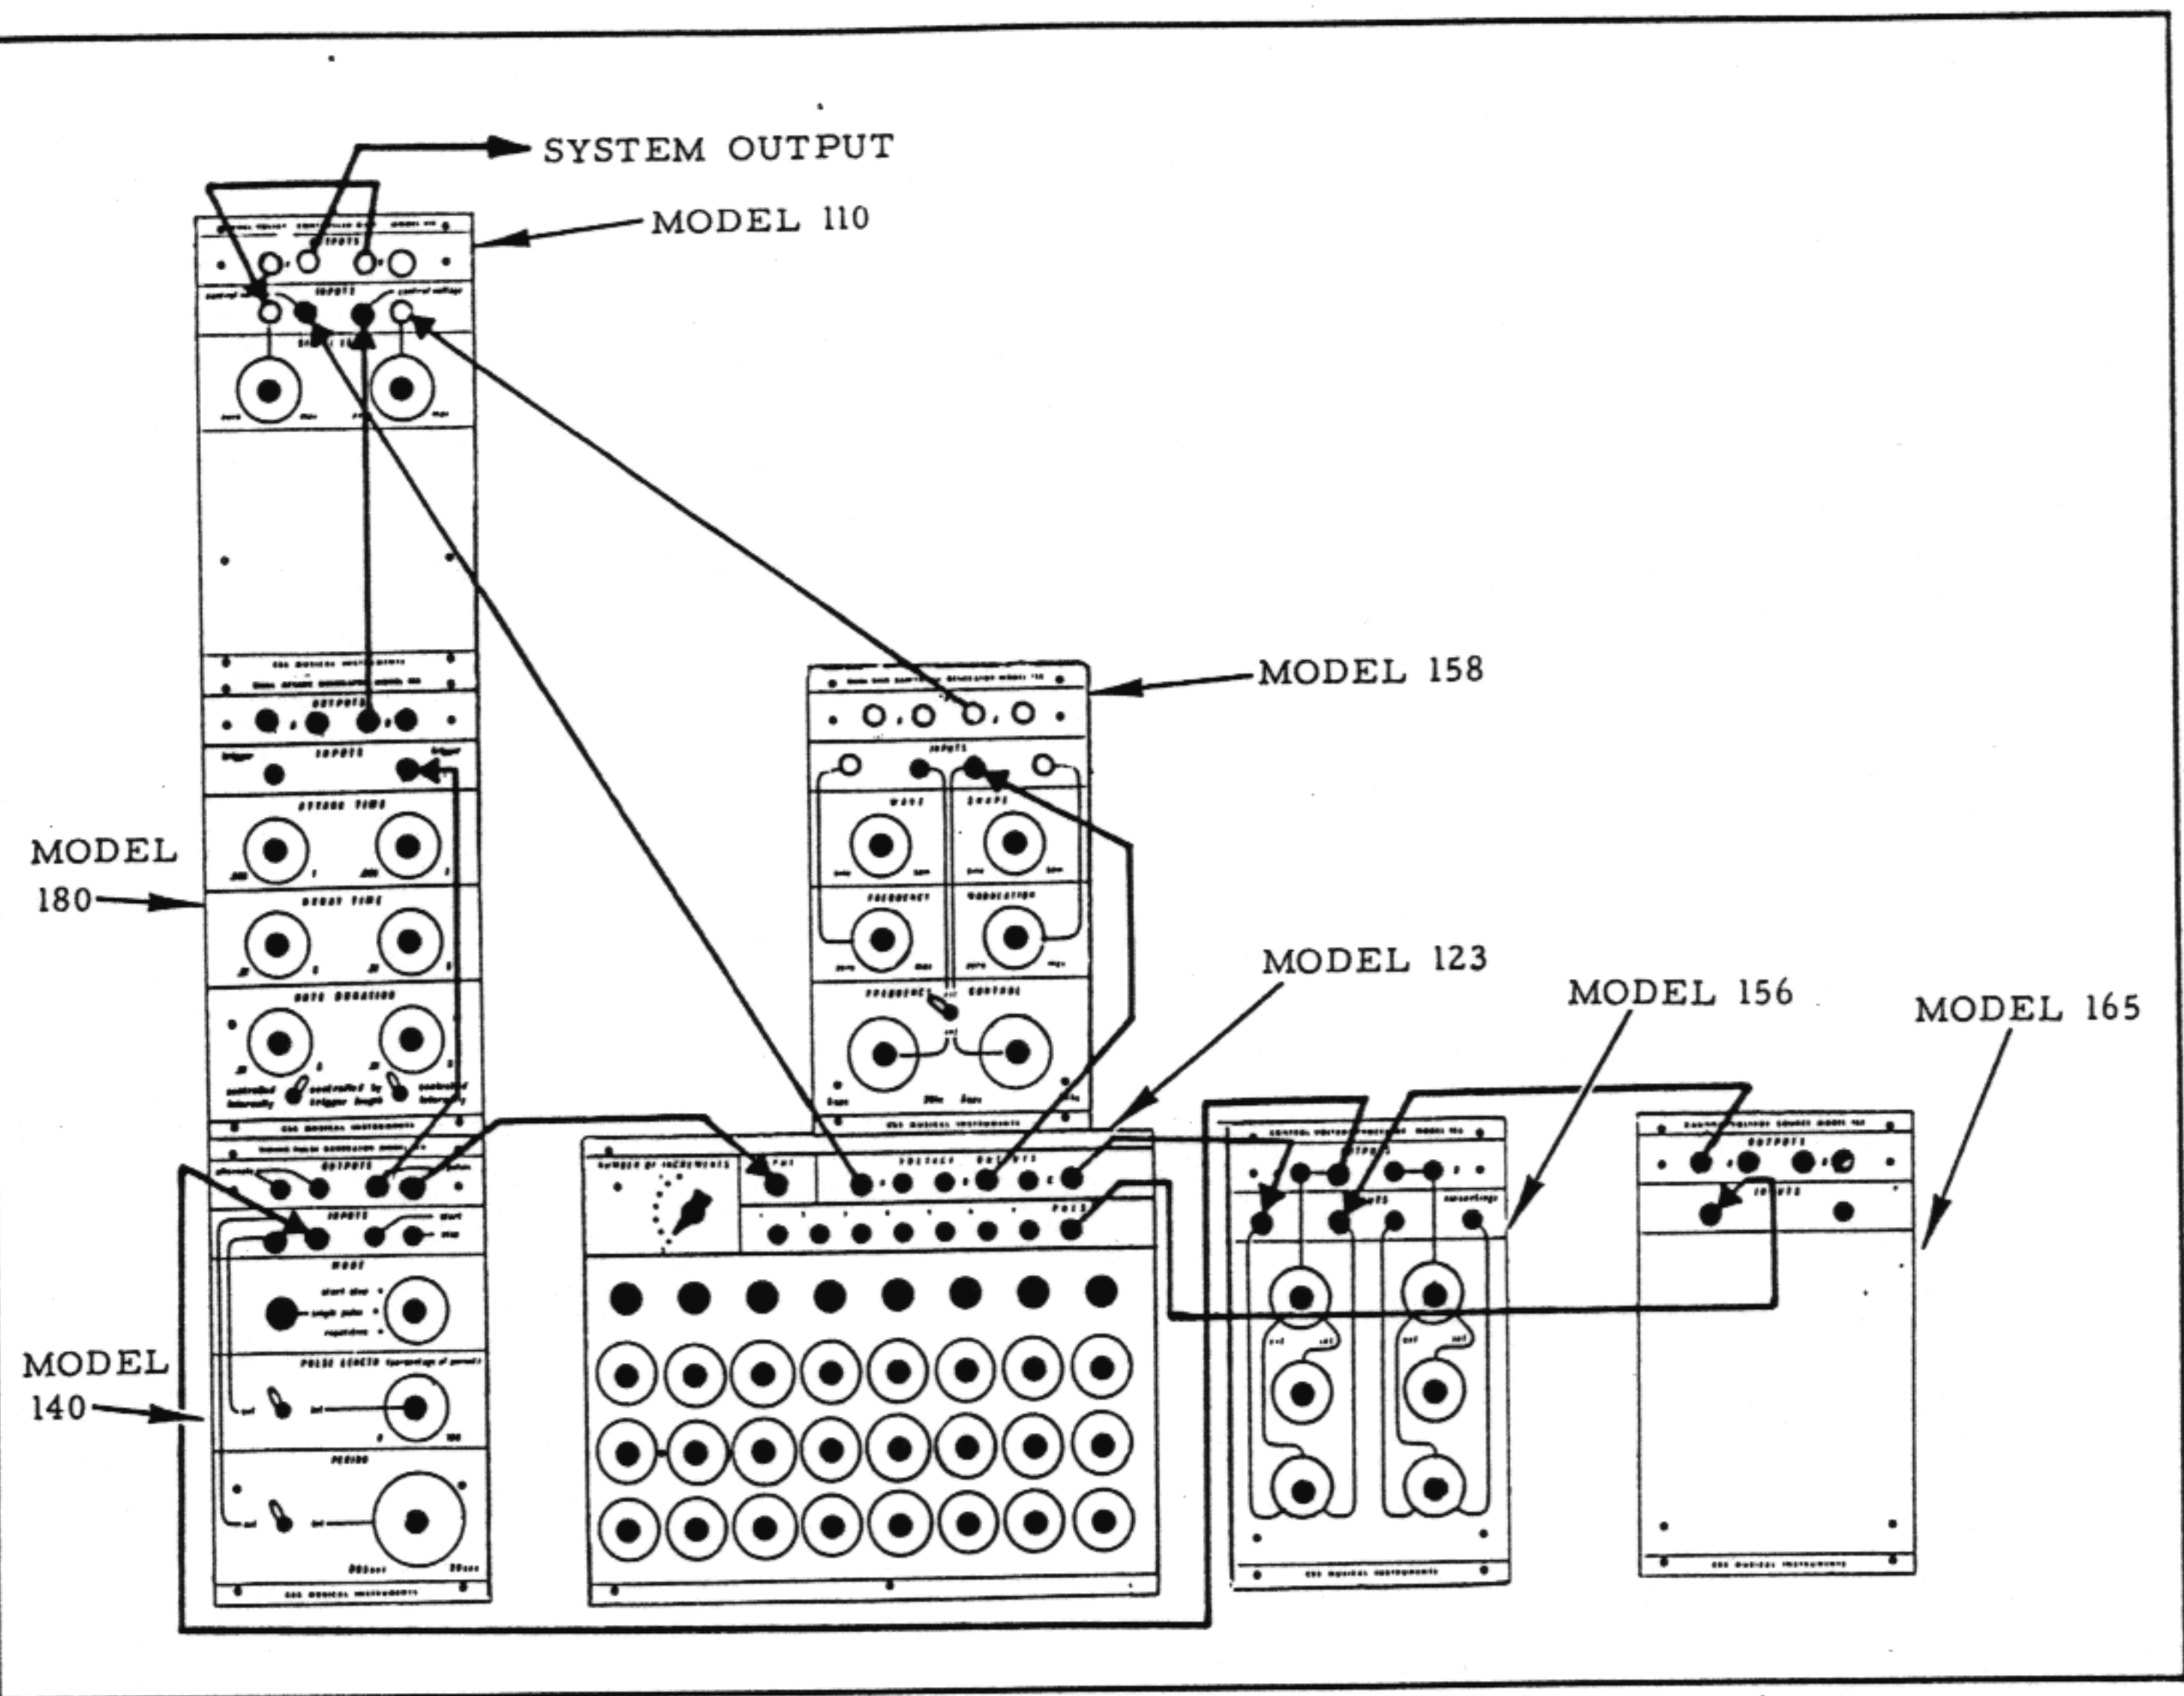

Figure 2
- The system output is now available as the output of the left side of the Model 110 Dual Voltage Controlled Gate. This entire network of patches is illustrated in Figure 2.